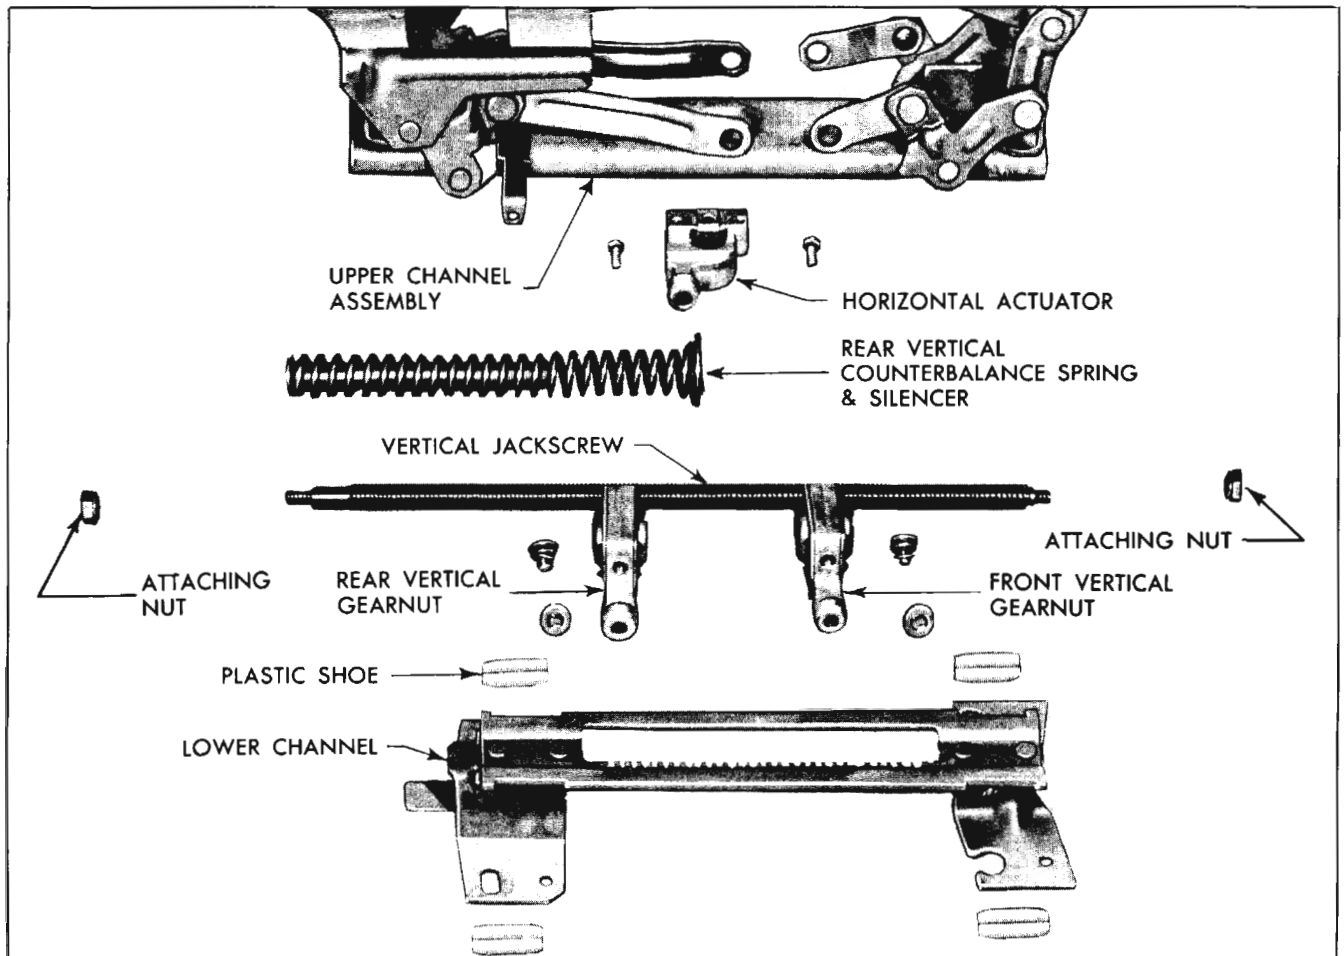

Fig. 16-85 Six-Way Seat Adjuster Assembly
9. Disengage rear end of jackscrew from support and remove jackscrew with gear nuts and spring from adjuster. Rear assist spring and silencer may now be removed from jackscrew. (Fig. 16-85)